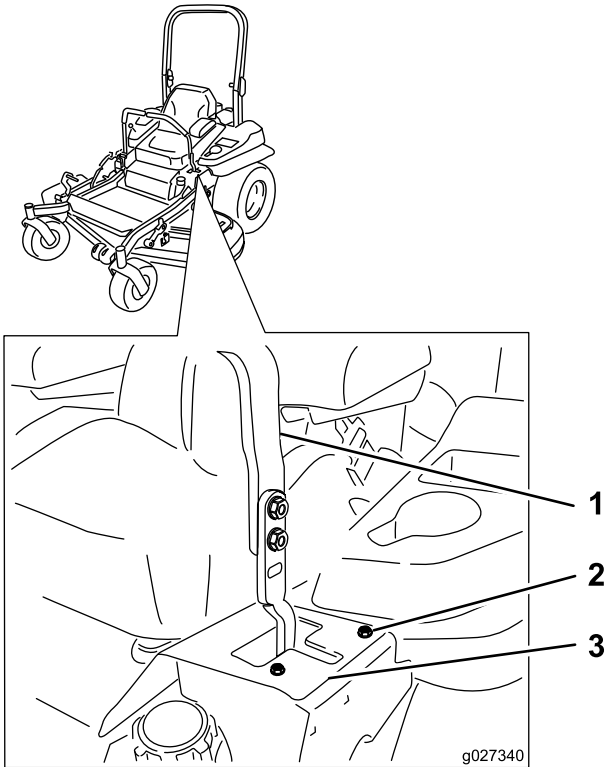

Figure 67
- If it tracks to the right, loosen the bolts and adjust the left stop plate rearward on the left T-slot until the machine tracks straight (Figure 67).
- If it tracks to the left, loosen the bolts and adjust the right stop plate rearward on the right T-slot until the machine tracks straight (Figure 67).
6. Tighten the stop plate (Figure 67).